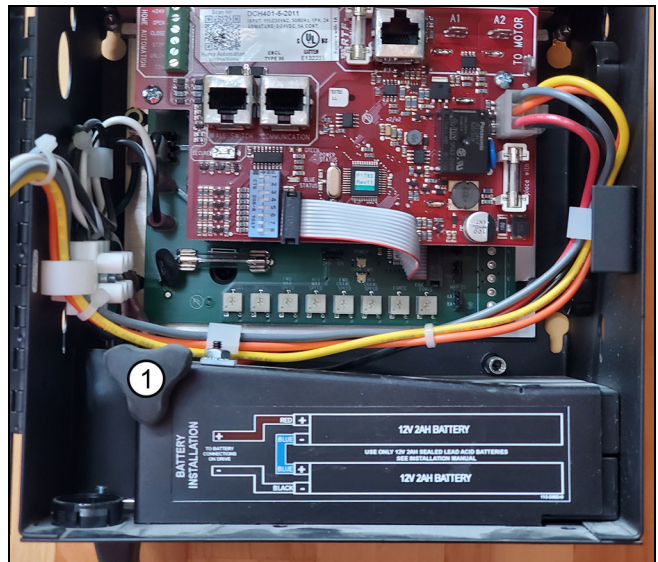
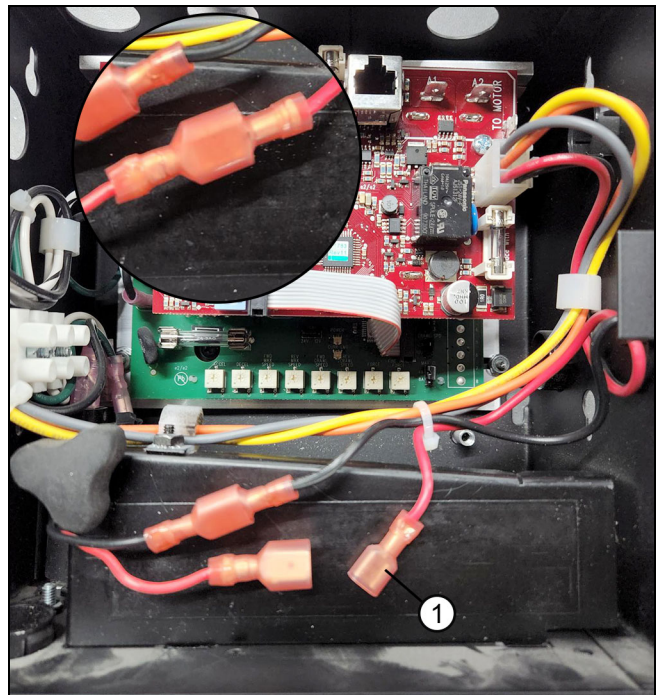

Figure 19
Figure 20
5. Remove the battery cover and battery from the control box. Connect the two loose red battery cables together to complete the circuit. Replace the battery and battery cover/nut. See Figure 19 and Figure 20.